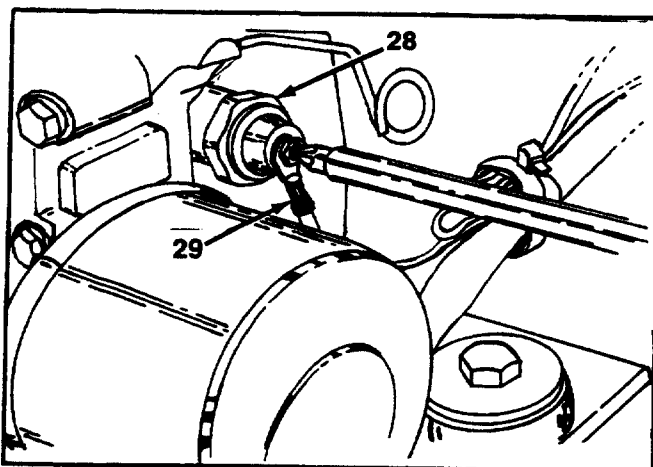

FIGURE 15.
18. With a Phillips screwdriver remove the screw securing the wire to the oil sending unit terminal, located on the right hand side of tractor. See figure 15. Remove the wire and reinstall the screw.